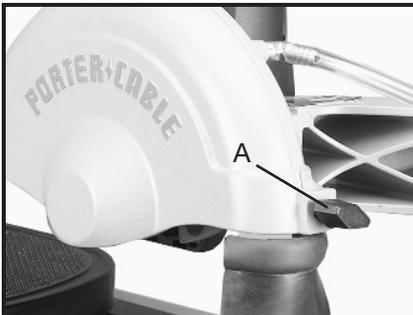

Fig. 12
1. Loosen knob (A) Fig. 12, and open the blade cover.
6. Close blade cover and tighten blade cover knob (A) Fig. 12.